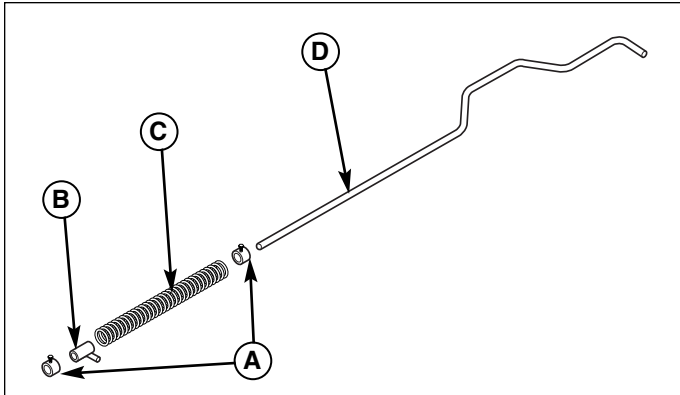

Figure 17. Lift Rod Assembly
1. Assemble lift rod as shown in Figure 17.